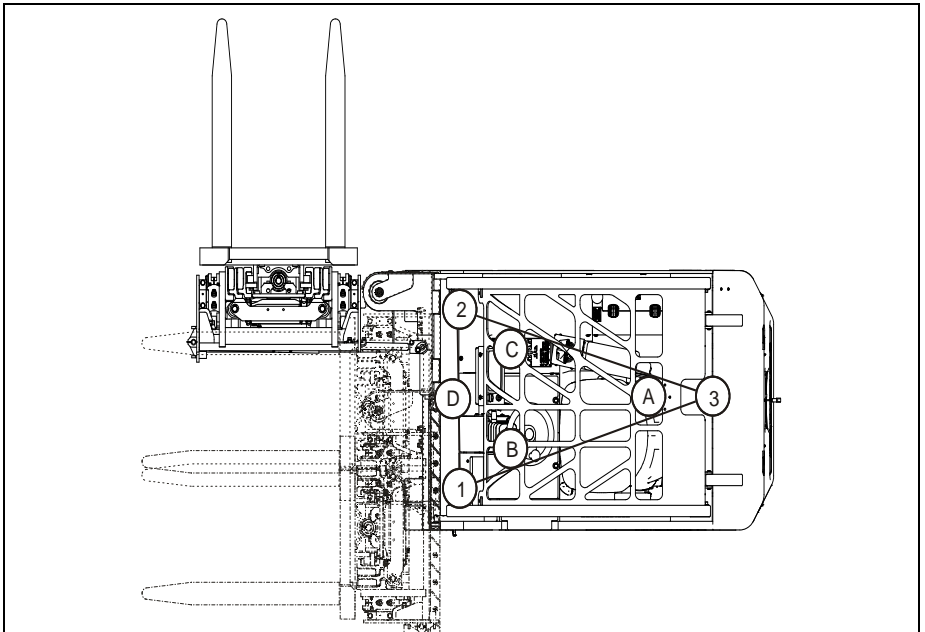

Figure 3-12: Truck Stability
The concepts concerning stability are actually quite simple. As the angle between the forks and the body of the truck approaches 90° to the right, the truck is in its least stable position. **See Figure 3-12.**
The forklift is most vulnerable in three conditions: **See Figure 3-12.**
1. The horizontal load center is equal to one-half the length of the load when the weight is evenly distributed. For example, a load that is 48 in. long has a horizontal load center of 24 in. The further the load center is from the fulcrum, the less stable the forklift becomes. Always make sure your load is flush against the rear of the forks and that unevenly distributed loads are loaded with the heaviest end of the load closest to the front wheels. **See Figure 3-12.**